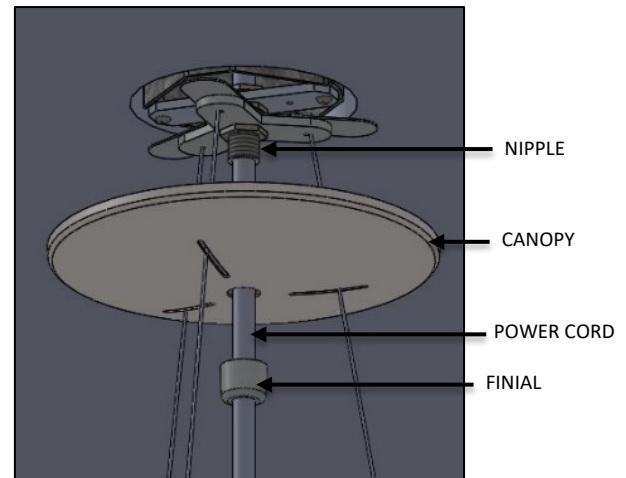

FIG. 16 – CORD INSTALLATION
7. Feed POWER CORD through the center hole in the CANOPY and make secure connection by passing through the NIPPLE (available in mounting bracket assembly) as shown below in FIG. 16.